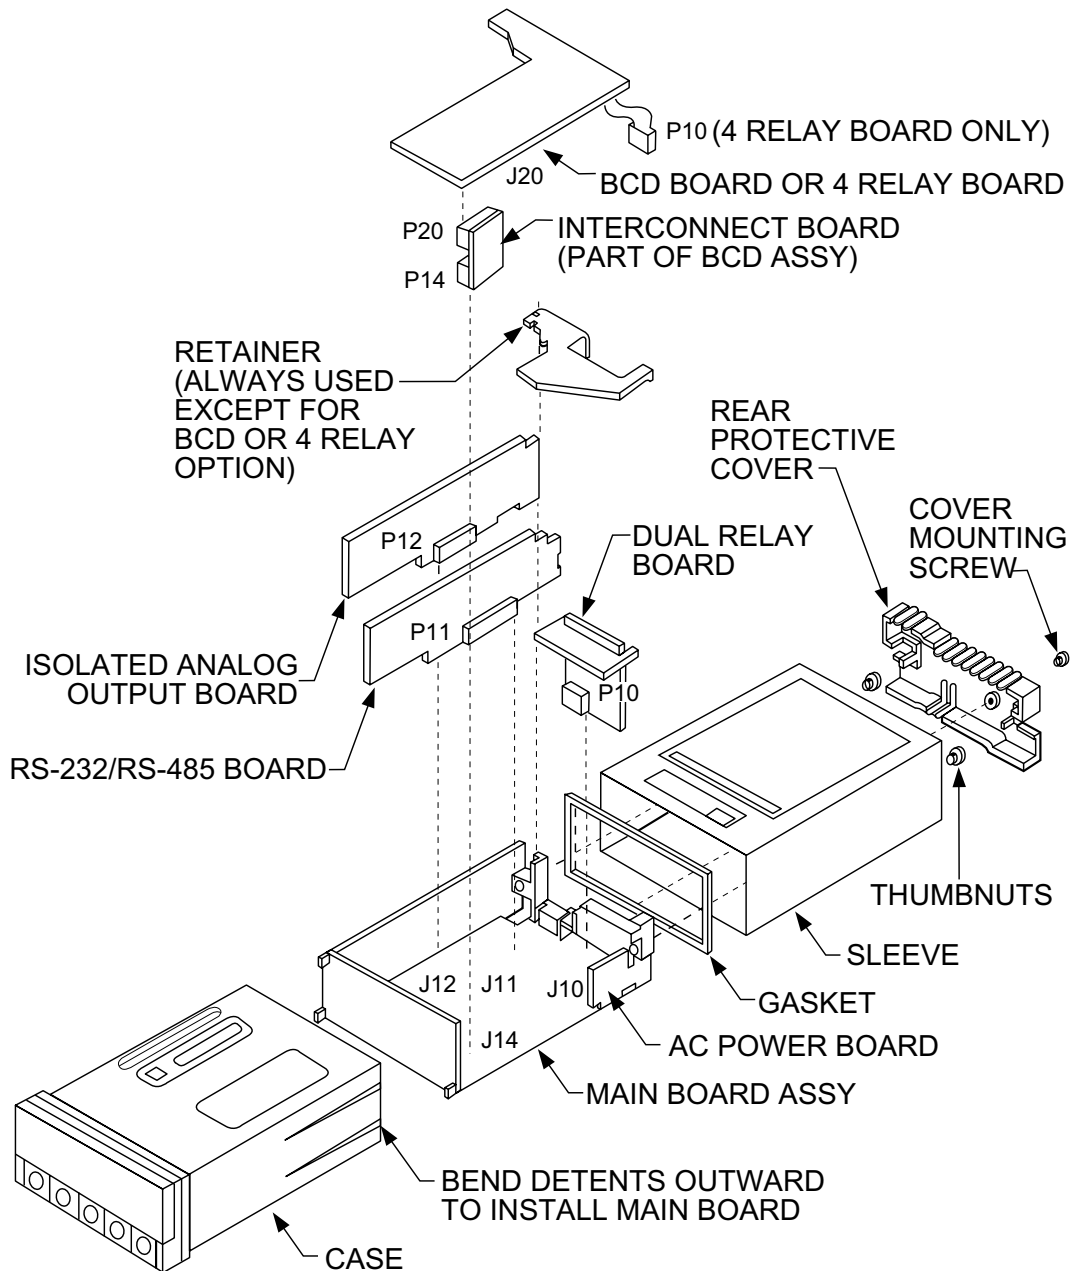

Figure 5-4. Optional Printed Circuit Board Locations
2. Using Figure 5-4 as a reference, insert option board(s) into the corresponding slot(s) on the main board. Each circuit board is keyed to fit in it’s own position.